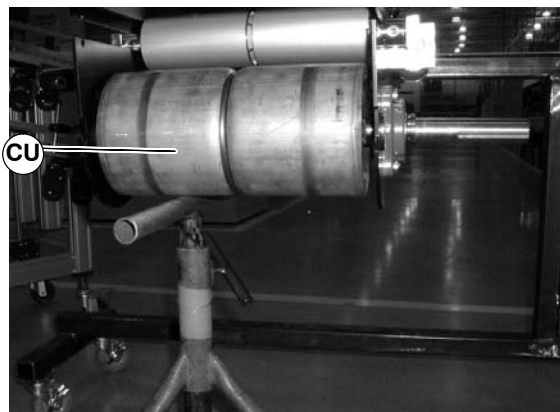

Figure 80
8. Temporarily support the drive pulley (CU of Figure 80).